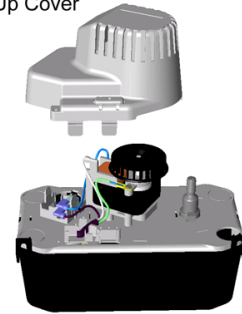

Figure 9
3. Insert a flat screwdriver into slot opposite power cord. Using the screwdriver squeeze the snap on the upper cover releasing it. (Figure 9)